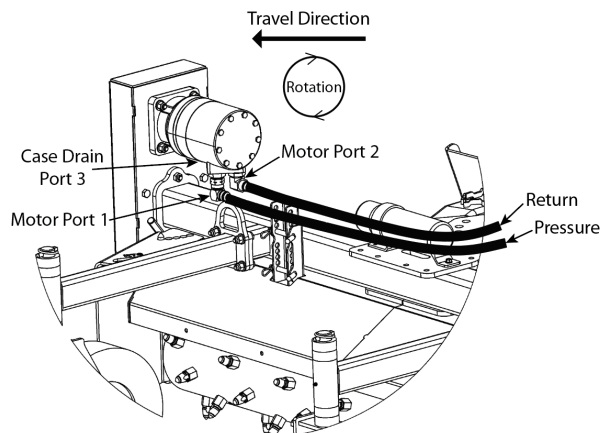

Figure 4-3. Hydraulic Hose Connections
The power box rake is shipped with hydraulic hoses and couplers installed. There are different styles of flat face couplers. Metalcraft of Mayville offers the most common style. If the supplied couplers do not fit, see your Authorized Service Dealer for the correct couplers or contact Scag Power Equipment, Service Department at P.O. Box 152, Mayville, WI 53050 or www.scag.com. Refer to Figure 4-3 for hydraulic hose installation.
2. Supplied hoses are connected as shown in Figure 4-3. This is the typical method. Other connection options are dependent upon specific applications and travel direction.